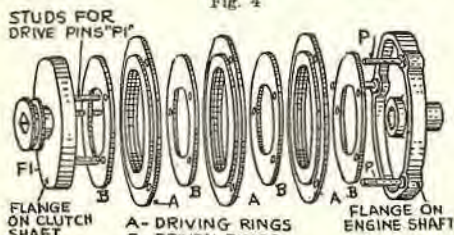

Fig. 5
Parts: Fig. 5 shows the parts of the clutch separated from each other. The disks (A) are attached to the flange on the engine shaft; the smaller disks (B) are attached to the transmission shaft. The large disks (A) and small disks (B) are placed alternating.